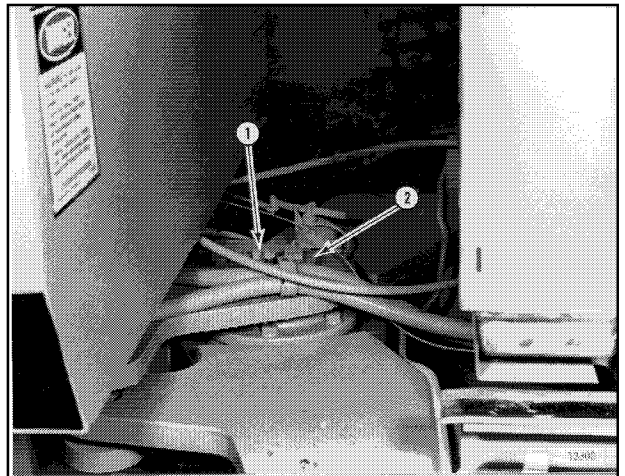

Figure 14
20. Remove two bolts, lock washers and retainer plate (top [1] & bottom [2], Figure 14).